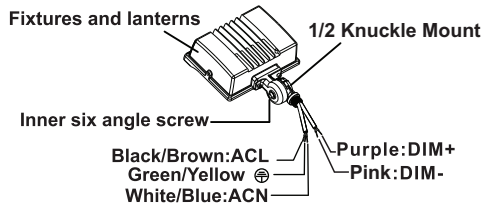

Fig. 1
- 2.) Connect the AC input wires coming from the mounting bracket to the power supply wires (**Fig. 1**).